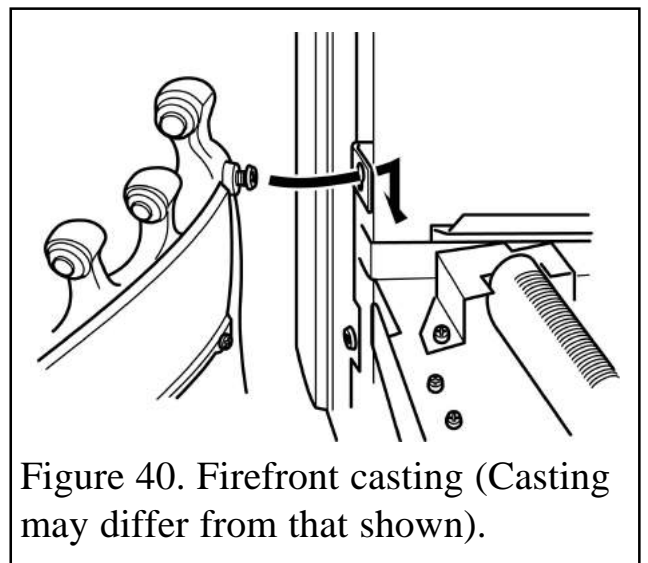

Figure 40. Firefront casting (Casting may differ from that shown).
**14.2.1** Fit the fire front casting to the fascia. Locate the two screw heads at the rear top corners of the firefront casting through the keyhole slots at the inner sides of the fascia. If the screw heads do not project enough or project too far, the screws can be adjusted. Lower the casting so that it rests on the hearth (See figure 40).
14.5 Locate the two screw heads through the keyhole slots at the inner sides of the surround. If the screw heads do not project enough or project too far, the screws can be adjusted. Lower the casting so that it rests on the hearth (See figure 40).